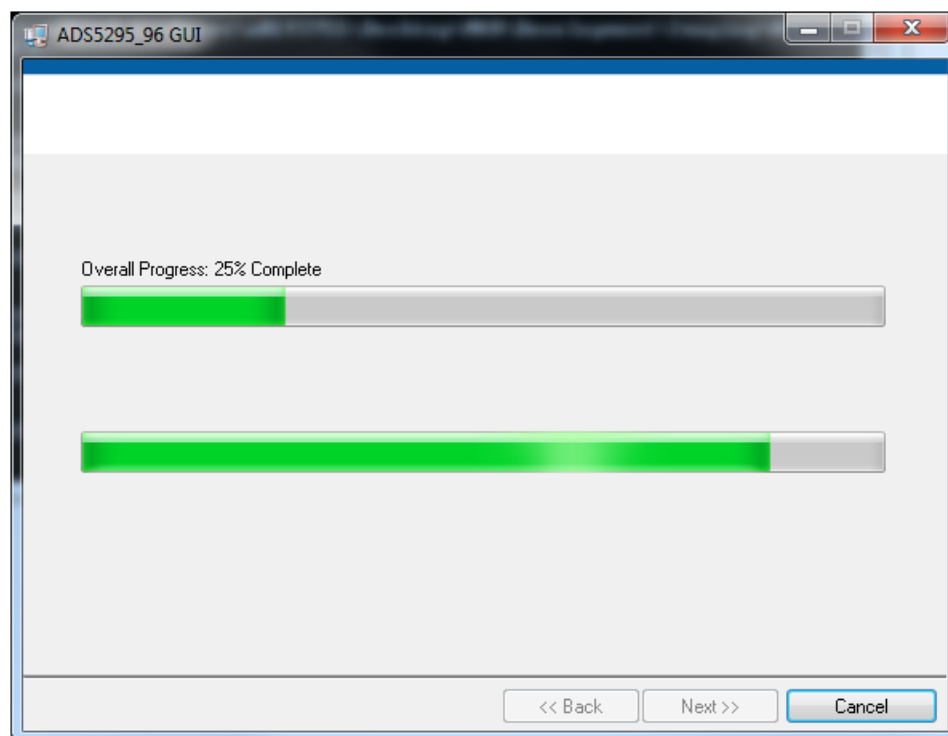

Figure 16. ADS5296 GUI Install (f)
- The window shown in Figure 16 should appear showing that installation is in progress.